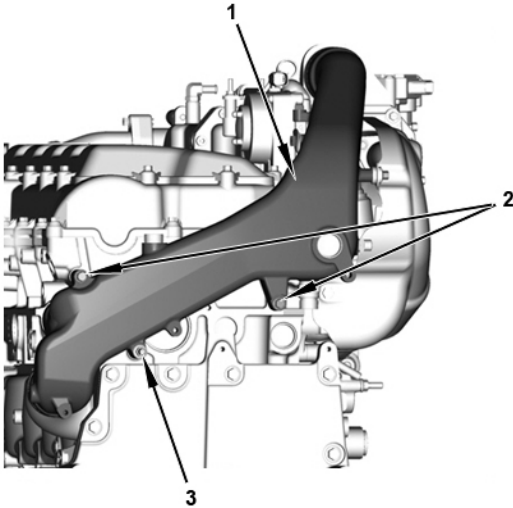

Figure 13 Coolant Manifold
18. Remove coolant manifold (1), remove two bolts (2), and one stud bolt (3) (Figure 13).